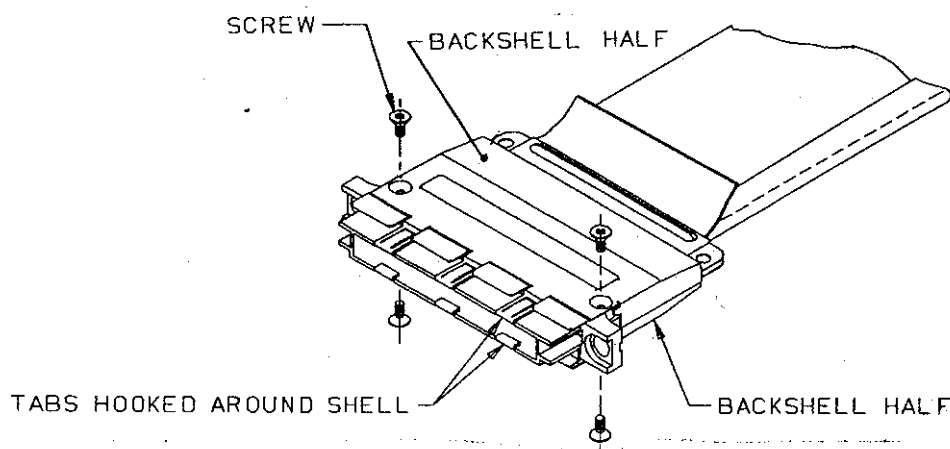

Figure 25. Attaching EMI Backshell to Connector Shell
10. Attach the two backshell halves to the connector shells (Figure 25).